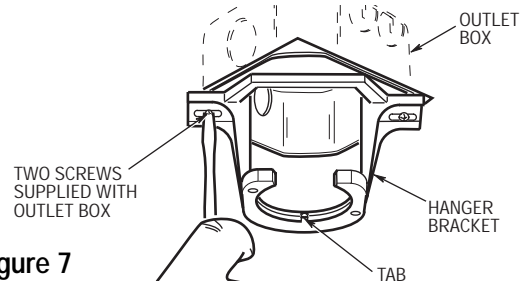
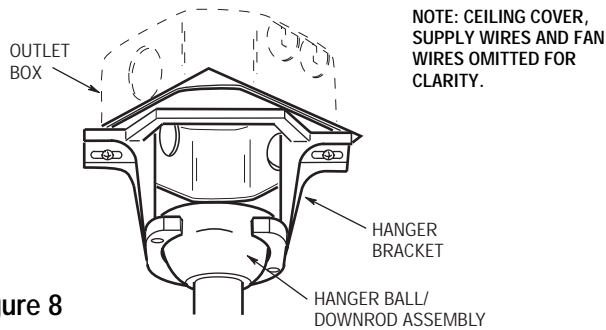

Figure 7
Figure 8
1. Securely attach the hanger bracket to the outlet box using the two screws supplied with the outlet box (Figure 7).
2. Carefully lift the fan from the foam pad and seat the hanger ball/downrod assembly on the hanger bracket that was just attached to the outlet box (Figure 8). Be sure the groove in the ball engages with the tab on the hanger bracket (Figure 7).
2. Connect the fan motor white wire to the supply white (neutral) wire using a wire connector (supplied) (Figure 7). Connect the fan motor black wire and blue wire to the supply black (hot) wire using a wire connector (supplied) (Figure 7). Your fan is now wired to be turned on and off from the fan switch. After connections have been made, turn leads upward and carefully push leads into the outlet box, with the white and green leads on one side of the outlet box and the black and blue leads on the other side of the outlet box.